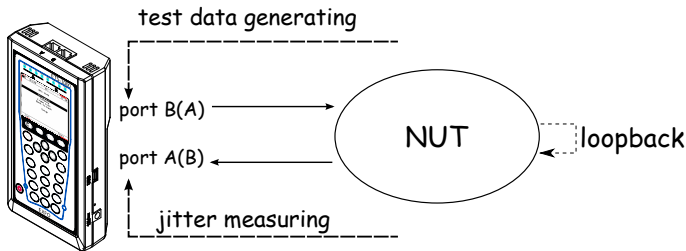
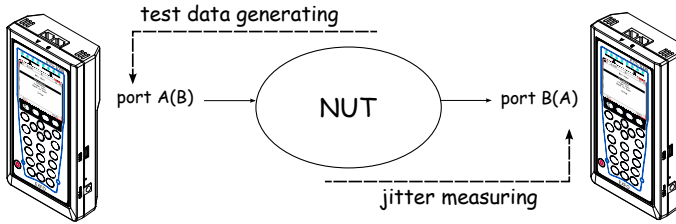

Figure 5.88. Jitter measurements. Scheme 2
Figure 5.89. Jitter measurements. Scheme 3
- test data is generated at one port, and then jitter is measured at another one (see fig. 5.88); in this case, destination port could be a port at a remote device (see fig. 5.89).